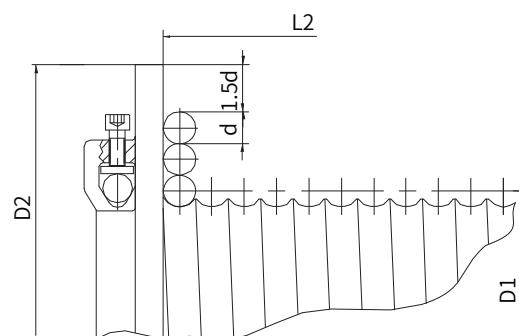

图5 Figure 5
4.4 卷筒和钢丝绳相关计算(图5):
4.4 The related calculations between drum and rope (figure 5):